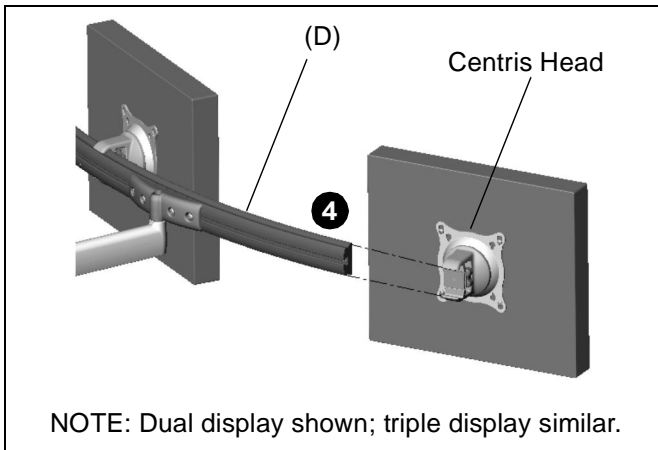

Figure 7
- Slide the Centris head onto the array (D) (See Figure 7). Ensure both the top and the bottoms of the Centris head are engaged into the corresponding slots in the array (D). (See Figure 7)